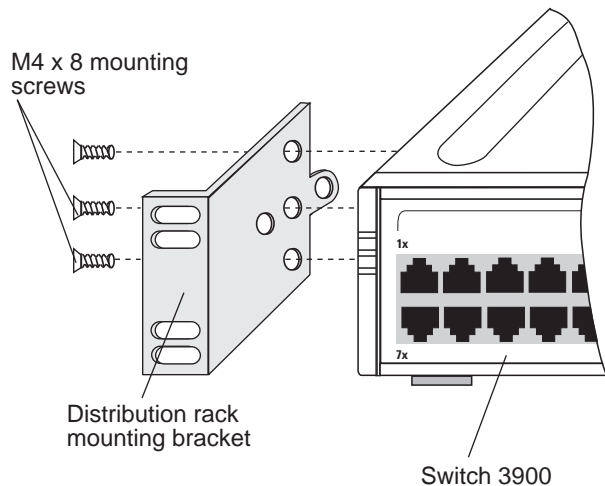

Figure 2-2 Installing System Mounting Brackets
- 2 Attach the mounting brackets to the left and right sides of the system using the M4 x 10 mounting bracket screws. See Figure 2-2.